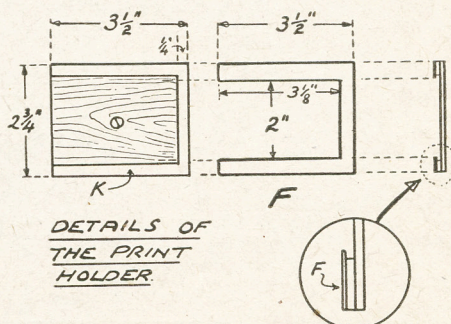

Fig. 3—Details of the holder parts
the end and top and bottom and then upon this gluing a piece of card cut as (F) Fig. 3. The inside measurements are $3\frac{1}{2}$ ins. by 2 ins.—a trifle narrower than the first card. This forms the lip as shown in the inset sketch.